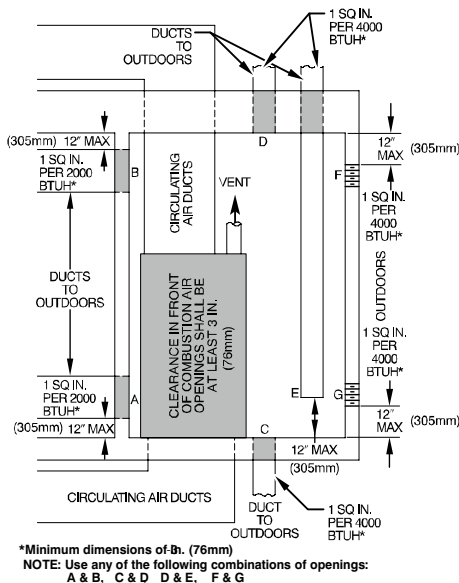

Fig. 6 – Air for Combustion, Ventilation, and Dilution for Outdoors
2. Fig. 6 illustrates how to provide TWO OUTDOOR OPENINGS, one inlet and one outlet combustion and ventilation air opening, to the outdoors.
- b. Size openings and ducts per Fig. 6 and Table 4.
- c. TWO HORIZONTAL DUCTS require 1 sq. in. (645 sq. mm) of free area per 2,000 BTU_h (1,100 mm²/kW) of combined input for all gas appliances in the space per Fig. 6 and Table 4.
- d. TWO OPENINGS OR VERTICAL DUCTS require 1 sq. in. (645 sq. mm) of free area per 4,000 BTU_h (550 mm²/kW) for combined input of all gas appliances in the space per Fig. 6 and Table 4.
- 1 sq. in. (645 sq. mm) of free area per 3,000 BTUh (734 mm²/kW) for combined input of all gas appliances in the space per Fig. 6 and Table 4.